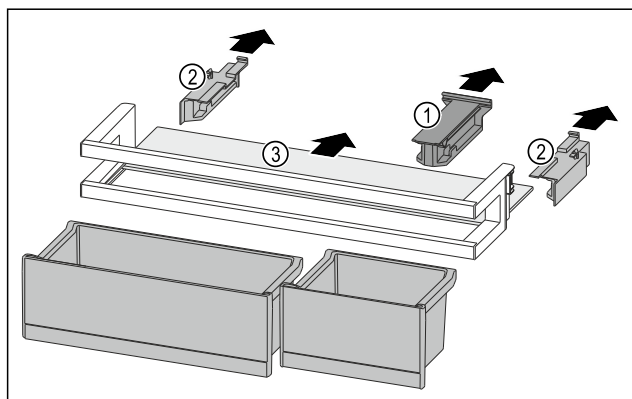

Fig. 176
- Pull off the holding part Fig. 176 (1).
- Pull off the side parts Fig. 176 (2).
- Remove the shelf Fig. 176 (3).